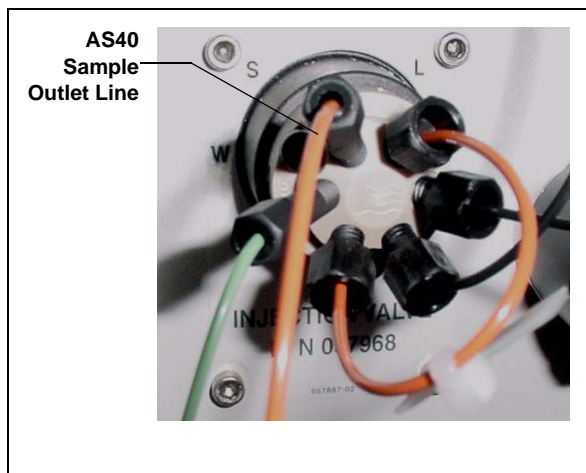

Figure B-108. ICS-2000 Injection Valve
3. Connect the outlet line from the AS40 to port **S (5)** of the injection valve (see Figure B-108).